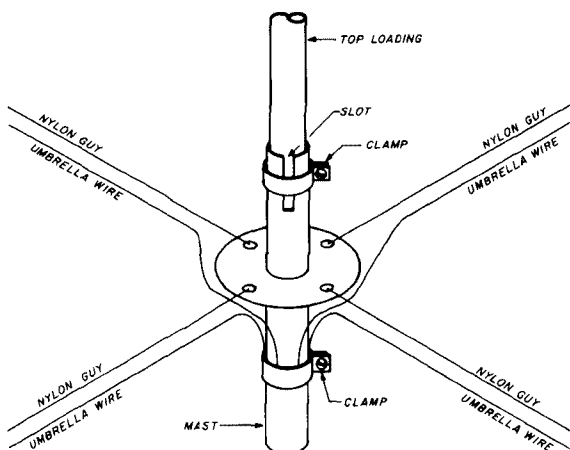

fig. 5. Detail showing attachment of top guys, "umbrella" wires and top loading whip.
4. Insert 4.6 meters (15 feet) of aluminum tubing into the top of the pushup mast. This tubing can be made up of two or three telescoping pieces, if desired, just so long as the bottom (largest) piece fits snugly inside the top section of the pushup mast. The tubing can be secured by drilling through and bolting or by slotting the pushup mast and using a clamp (see fig. 5).
5. Attach four nylon (close-woven) guys to the top guy connection ring (fig. 5).
8. Install umbrella wires.* Use approximately 16.8 meters (55 feet) of wire for each of the four elements. Clean and tin about 5 cm (2 inches) at one end of each wire. Clean and sand the mast just under the guy attachment ring. Using a stainless-steel hose clamp, attach the umbrella wires, spacing them equally around all four sides of the mast (fig. 5). Smear silicone rubber cement (GE or Dow-Corning)